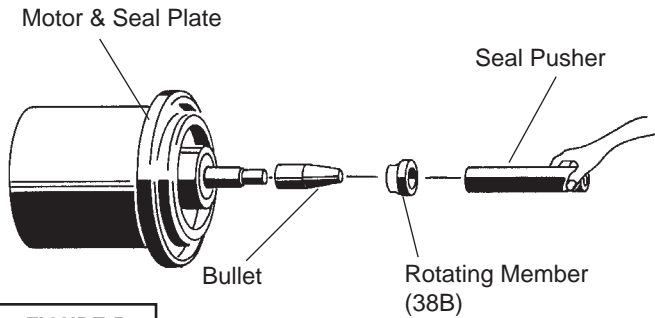

FIGURE 5
Slide retaining ring (38d) over shaft and let rest on bearing (39). Place spring (38c) over shaft and let rest on retaining ring (38d). Lightly oil (**DO NOT use grease**) shaft, bullet and inner surface of bellows on rotating member (38b), (See Figure 5), with lapped surface of rotating member (38b) facing outward, slide over bullet and onto shaft using seal pusher, making sure spring (38c) is seated in retaining ring (38d) and spring (38c) is lined up on rotating member (38b) and not cocked or resting on bellows tail.